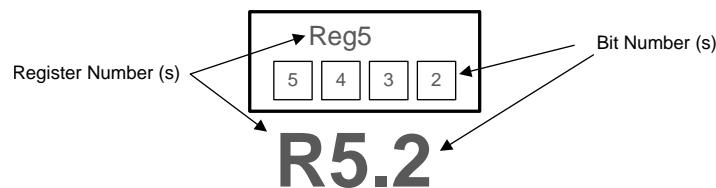

Figure 24. LMK61E2 Register Reference Format
Figure 24 shows the method that this document employs to refer to an individual register bit or a grouping of register bits. If a drawing or text references an individual bit the format is to specify the register number first and the bit number second. The LMK61E2 contains 38 registers that are 8 bits wide. The register addresses and the bit positions both begin with the number zero (0). A period separates the register address and bit address. The first bit in the register file is address 'R0.0' meaning that it is located in Register 0 and is bit position 0. The last bit in the register file is address 'R72.7' referring to the 8th bit of register address 72 (the 73rd register in the device). Figure 24 also lists specific bit positions as a number contained within a box. A box with the register address encloses the group of boxes that represent the bits relevant to the specific device circuitry in context.